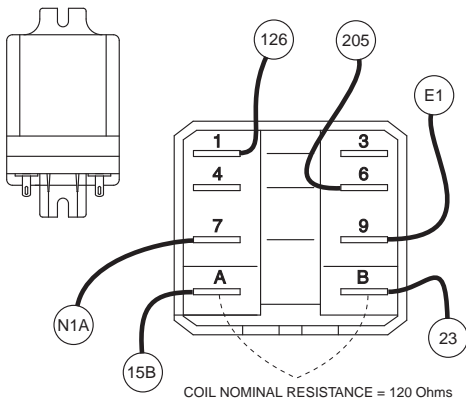

Figure 75. Transfer Relay Test Points
1. Disconnect all wires from the TR1 relay to prevent interaction. See Figure 75.